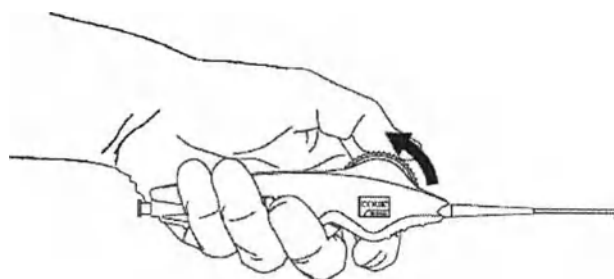

Fig.7
3. Initiate stent deployment by slowly rotating the device thumbwheel in the direction shown in Figure 7.